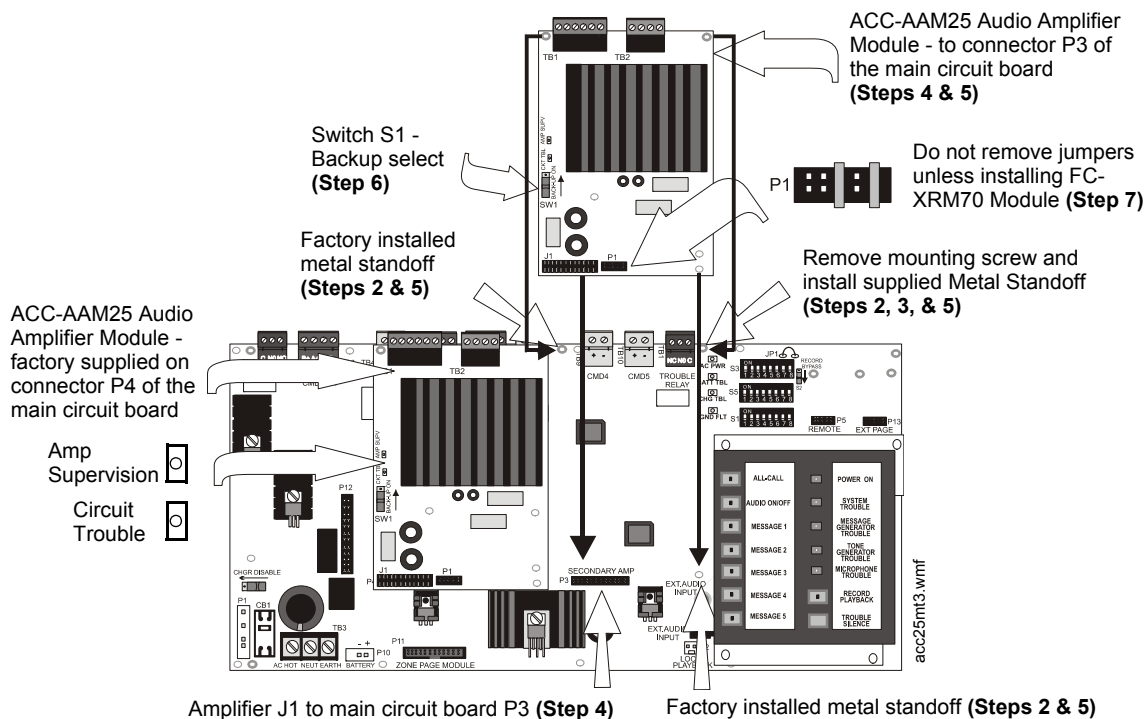

Figure 3.17 Installation of Optional Audio Amplifier
- Carefully remove the ACC-AAM25 Audio Amplifier Module(s) from the main circuit board. Figure 3.17 on page 58 for installation procedures and reverse the steps.
- Reinstall the Audio Amplifier Module(s) following the procedure accompanying Figure 3.17.